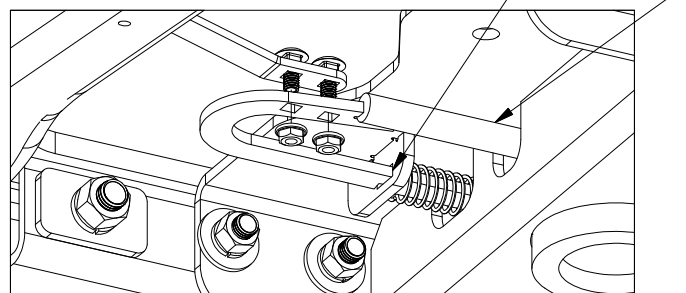

Figure F2: View looking up at latch mechanism of center section.
2. **Lock out latch pin.** Retract the latch pin of the center section and lock it out by pushing the mechanism toward the cab, see Figure F2. In order to prevent the mechanism from latching while attaching the handle, place a 1/4" Allen wrench, thick piece of wire, or other object into the space shown on the mechanism to prevent it from latching unexpectedly, see Figure F2.
3. **Secure handle.** Position the handle above the latch mechanism, and insert the 5/16" bolts through the holes in the latch mechanism. Secure these bolts with the 5/16" locking flange nuts, see Figure F2. Remove the object that is preventing the mechanism from latching and allow the pin to latch.